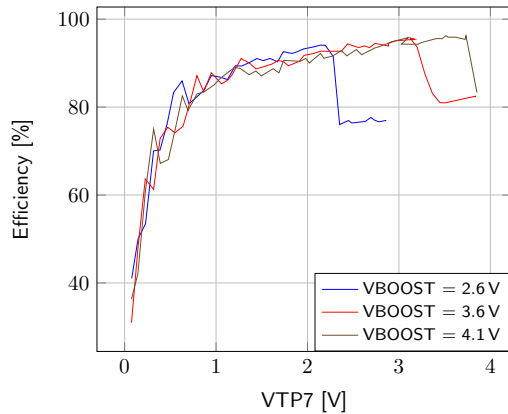

Figure 9: Boost efficiency for  $I_{TP7} = 1$  mA
- **VBOOST**: Measure the current and the voltage. Repeat the measurement a copious number of times to be sure to capture the current peaks. Figure 9 has been obtained by averaging over 100 measurements configured with a 100 ms integration time.